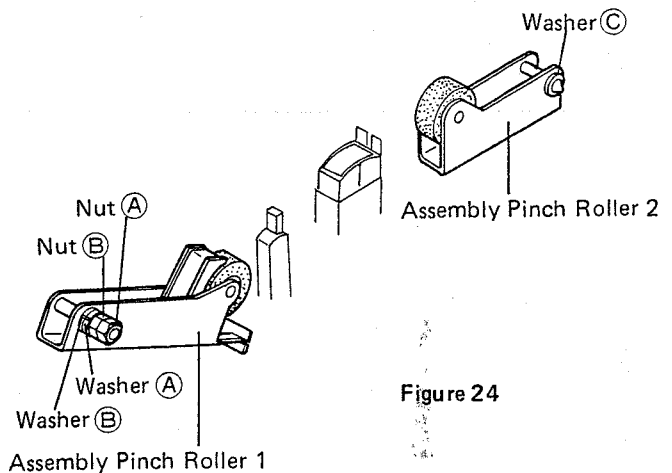

Figure 24
- (1) Remove two nuts marked "A" and "B" and two washers marked "A" and "B" to remove the pinch roller assembly as shown in Figure 24.
- (2) Remove "C" washer to remove the pinch roller marked "2" as shown in Figure 24.
- (3) After replacement with good pinch roller assembly, clean the pinch roller with isopropyl alcohol and assemble it in the opposite way to the disassembly.
- (4) After assembling, confirm tape speed and wow/flutter with the test tape (MTT-111).